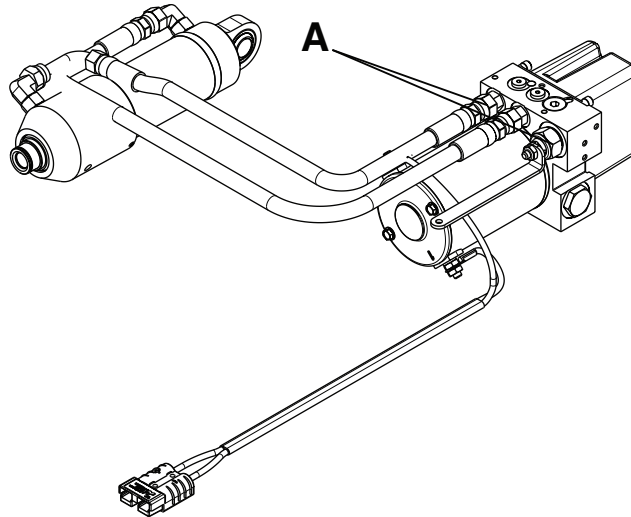

Figure 34 – Hydraulics assembly hose end connectors
3. Using two 9/16" combination wrenches, loosen (do not remove) the hose end connectors (A) from the manifold to remove both hoses (Figure 34).